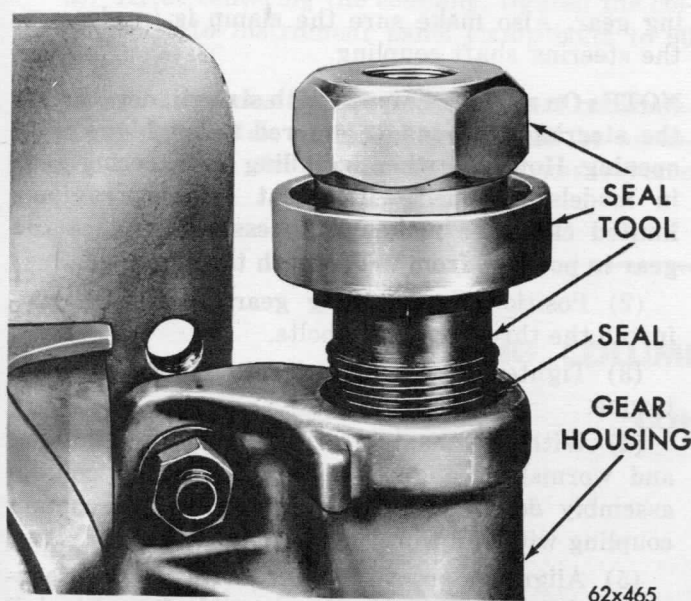

Fig. 16—Removing Cross Shaft Oil Seal (Tool C-3880)
(1) Slide the threaded adapter of Tool C-3880 over the end of the cross shaft and install the nut portion of the tool on the shaft (Fig. 16). Maintain pressure on the adapter with the tool nut while screwing the adapter into the seal until it grips the oil seal firmly. Place the two half rings and retainer over both portions of the tool. Turn tool nut counter-clockwise to withdraw the seal from the housing.